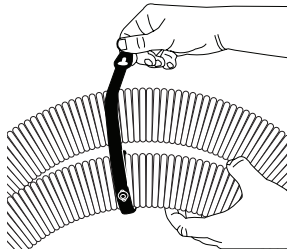
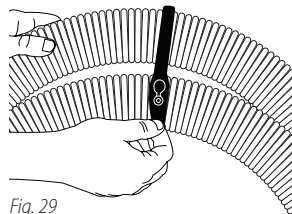

Fig. 28
Fig. 29
62. Insert button #1 into button hole #1 **Fig. 28** (this may be difficult at first), continue to wrap hose strap **19** around hose **12** **Fig. 28.** Insert button #2 into button hole #2 **Fig. 29.**